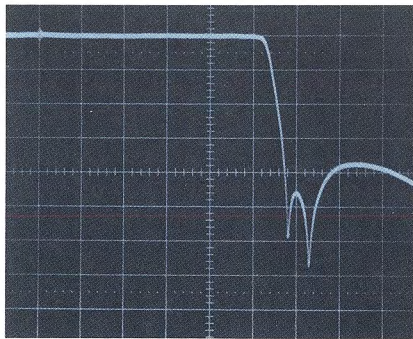

Fig. 1 Amplitude/frequency response of 5 MHz video lowpass filter (10 dB/div)
**VF mode** The LDS considerably extends the dynamic range ( $>80$  dB) for amplitude measurements (Fig. 1 on page 136), meaning that filters with high stopband attenuation can also be measured and return-loss measurements become easier. Resolution or 0.5, 1.5 or 10 dB/div for amplitude display and of 10, 20, 50 or 200 ns/div for group-delay display, any two test curves can be displayed simultaneously.